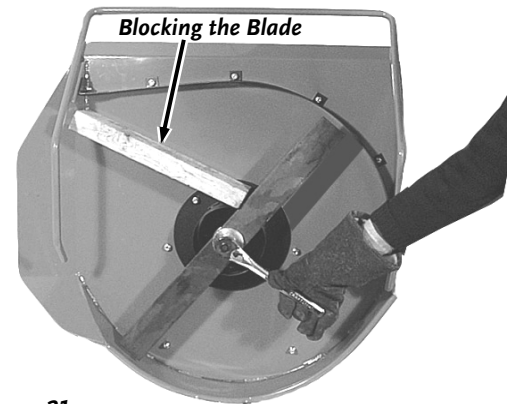

Figure 21
- Block the Blade with a piece of wood between the Blade and the Skid on the Chute side of the Deck (**Figure 21**).